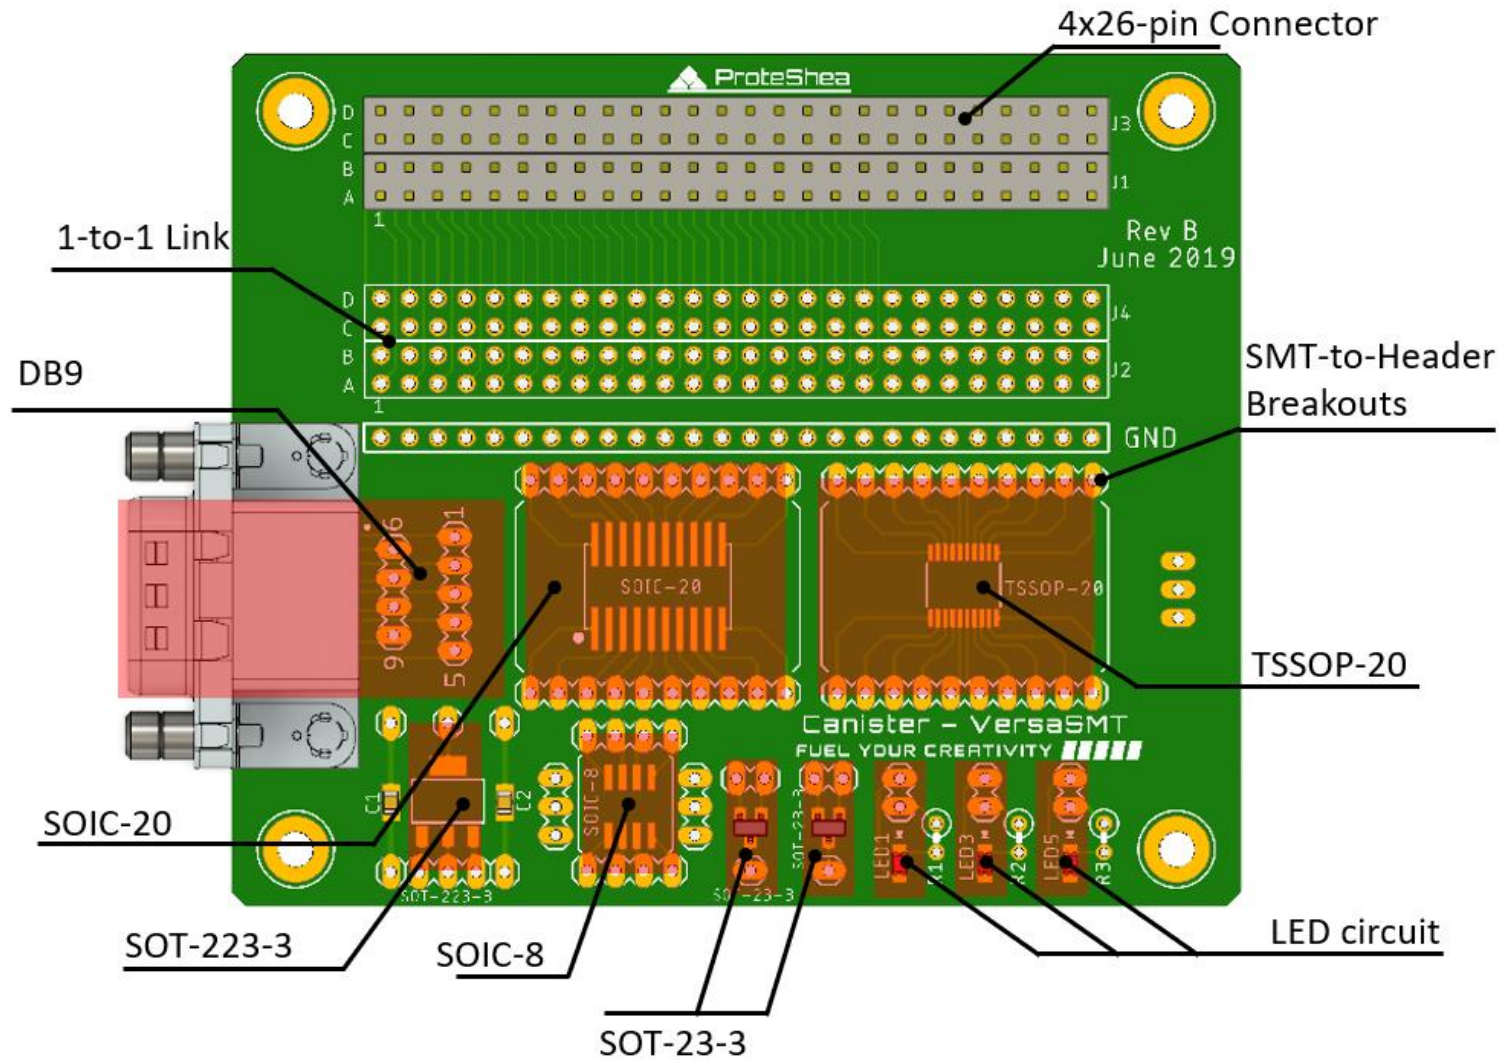

Figure 1. VersaSMT™ Description (Top View).
Table 3 shows the pinouts for the 4x26-pin connector as shown in Fig. 1. The 1-to-1 link provides connections to the 4x26-pin connector so that the jumper wires can be used to connect from this header to the SMT breakout headers or to development board (i.e. Raspberry Pi 3 or Arduino Uno) in the FuelCan's prototyping area.
Figures 1 and 2 show which SMT-to-breakout headers correspond to which SMT component (highlighted in red). Additionally, if looking at the top or bottom layer of the board, the user can see the printed-circuit board traces to identify which header pins correspond to a SMT component pin.
5. With the Canister powered off, use a voltmeter to verify which SMT component pins connect to which SMT-to-breakout header. The printed-circuit board routing can also be seen in Figures 1 and 2.